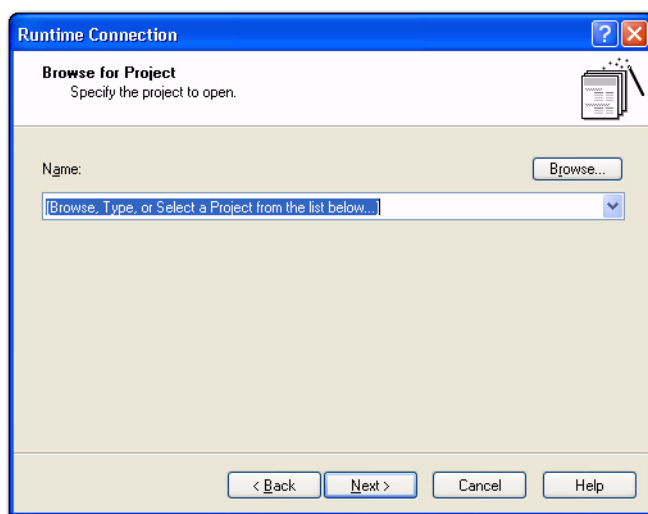

Figure 3-5 The “Browse for Project” page of the “Runtime Connection” wizard.
- For “Browse or Pick from Most Recently Used”, the “Runtime Connection” wizard displays the page shown in Figure 3-5. Use the drop-down list to select from among most recently used projects, enter an absolute path to a project, or click the “Browse” button to select a project. Click the “Next” button, and then continue with step 6.